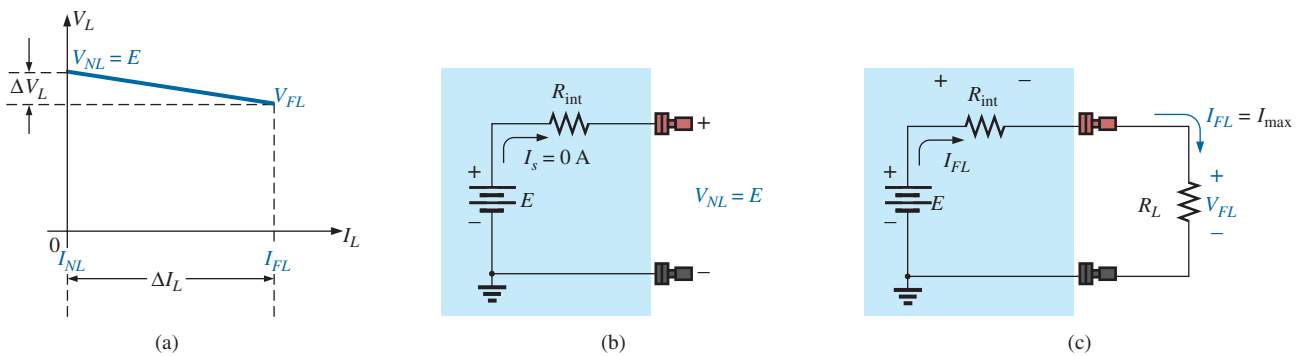
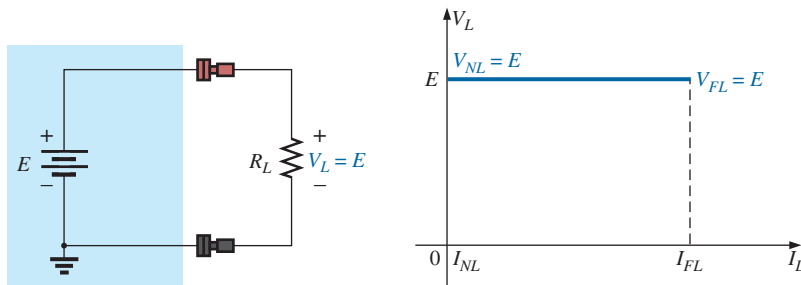

FIG. 5.68
FIG. 5.69
For supplies of any kind, the plot of particular importance is the output voltage versus current drawn from the supply, as shown in Fig. 5.68(a). Note that the maximum value is achieved under no-load (NL) conditions as defined by Fig. 5.68(b) and the description above. Full-load (FL) conditions are defined by the maximum current the supply can provide on a continuous basis, as shown in Fig. 5.68(c).
As a basis for comparison, an ideal power supply and its response curve are provided in Fig. 5.69. Note the absence of the internal resistance and the fact that the plot is a horizontal line (no variation at all with load demand)—an impossible response curve. When we compare the
curve in Fig. 5.69 with that in Fig. 5.68(a), however, we now realize that the *steeper the slope*, the more sensitive the supply is to the change in load and therefore the *less desirable* it is for many laboratory procedures. In fact,
To help us anticipate the expected response of a supply, a defining quantity called **voltage regulation** (abbreviated VR; often called *load regulation* on specification sheets) was established. The basic equation in terms of the quantities in Fig. 5.68(a) is the following: